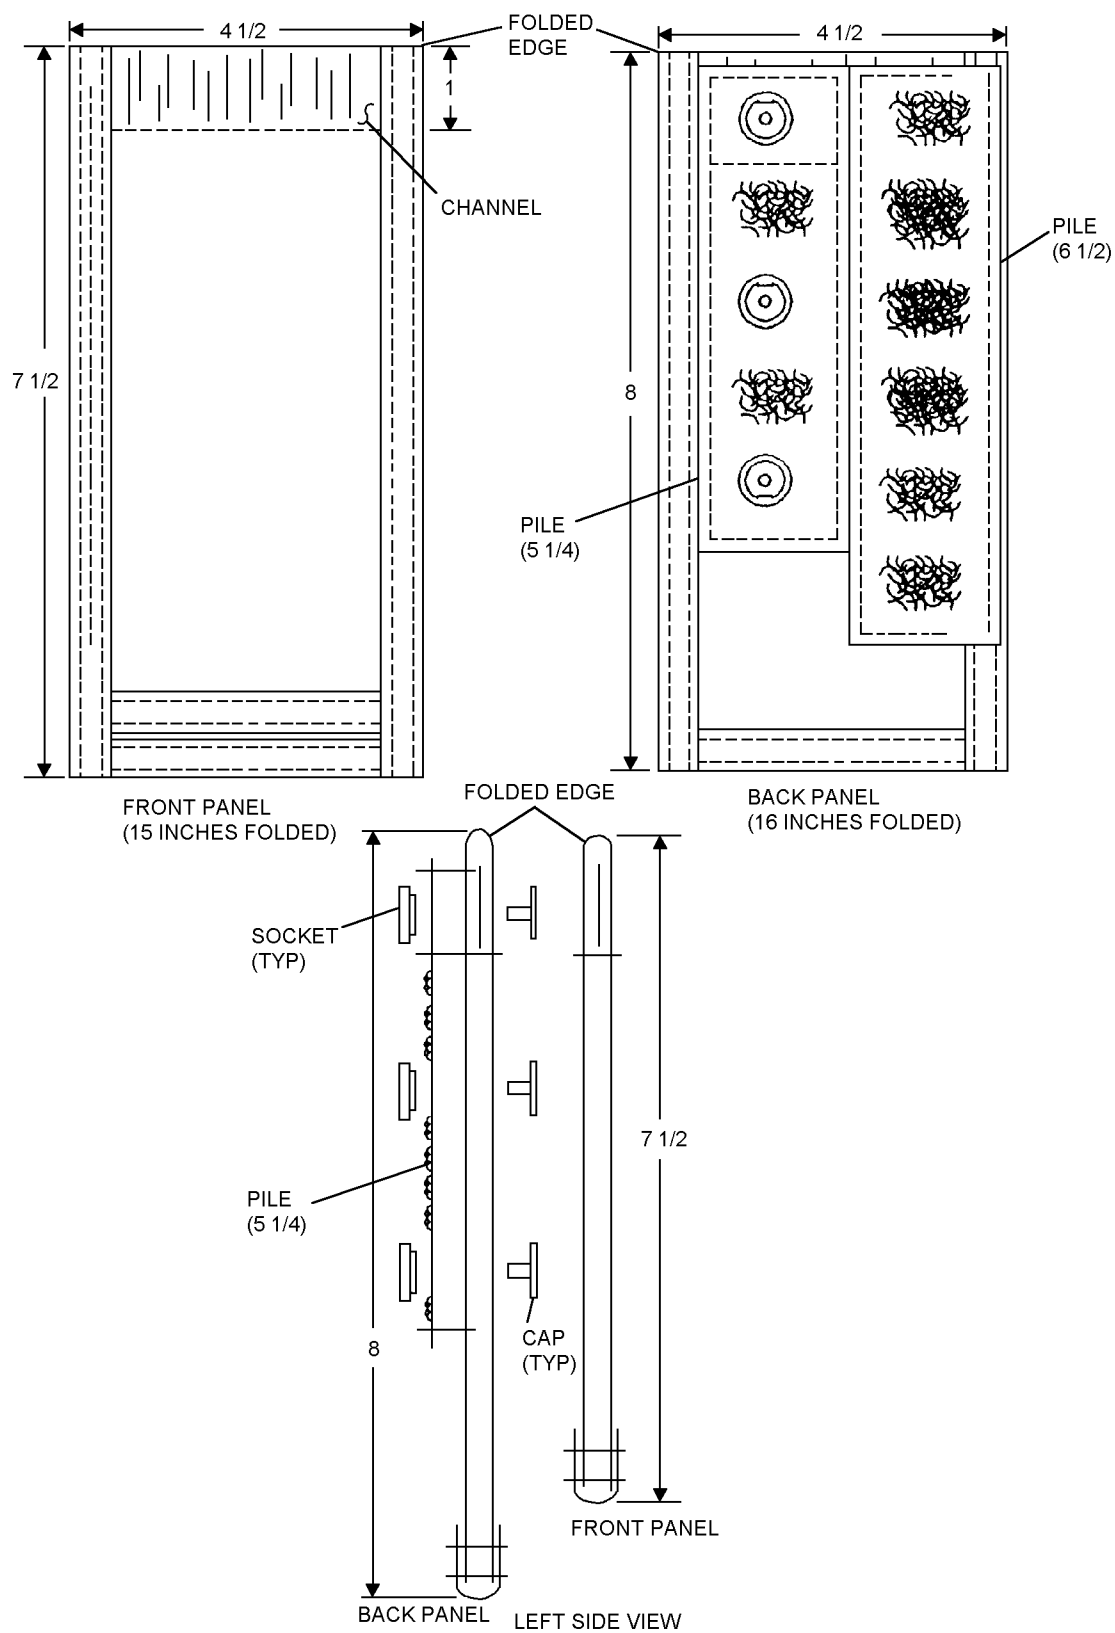

Figure 7-12. Fabrication of CBR Hose Pocket Assembly
7-41. Fabrication of Front Panel of HABD Hose Pocket Refer to figure 7-12 and proceed as follows:
7-42. Assembly of the HABD Hose Pocket. Refer to figure 7-12 and proceed as follows:
b. The top two sockets shall have their flat locking edge on top and the lowest socket shall have the flat locking edge toward the bottom (see figure 7-12).